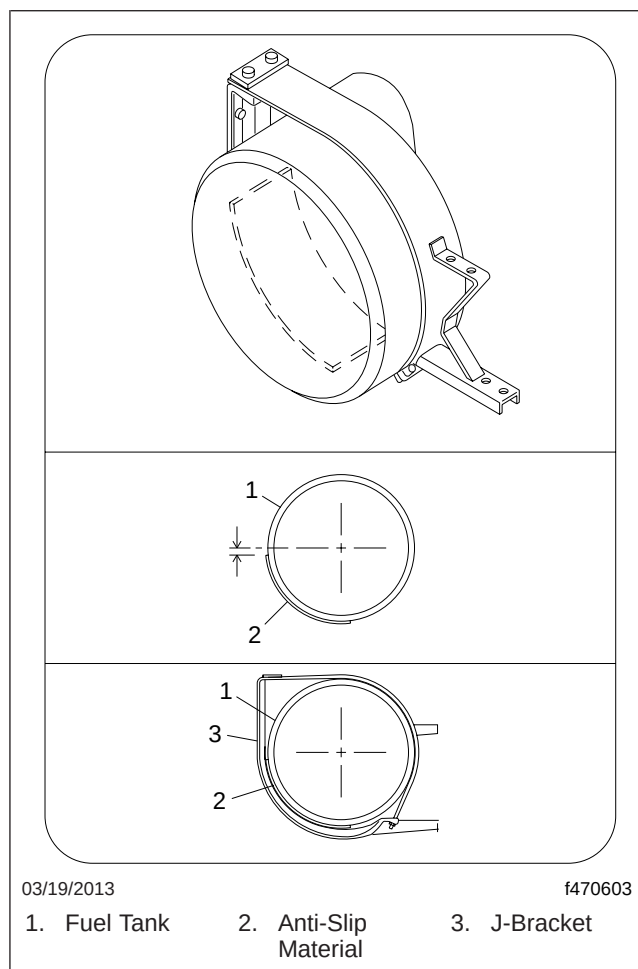

Fig. 1, Anti-Slip Material Installation
Refer to Fig. 1 for this procedure.
6. Apply the anti-slip material in accordance with the manufacturer's instructions in the location shown in Fig.1.